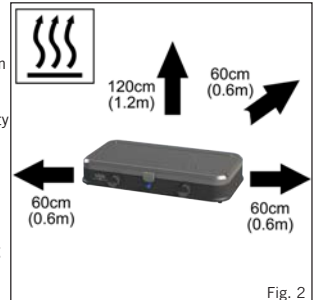

Fig. 2
- Ensure the appliance is used away from flammable materials. Minimum safe distances; above the appliance 1.2 m, at the rear and sides 0.6m (Fig. 2).